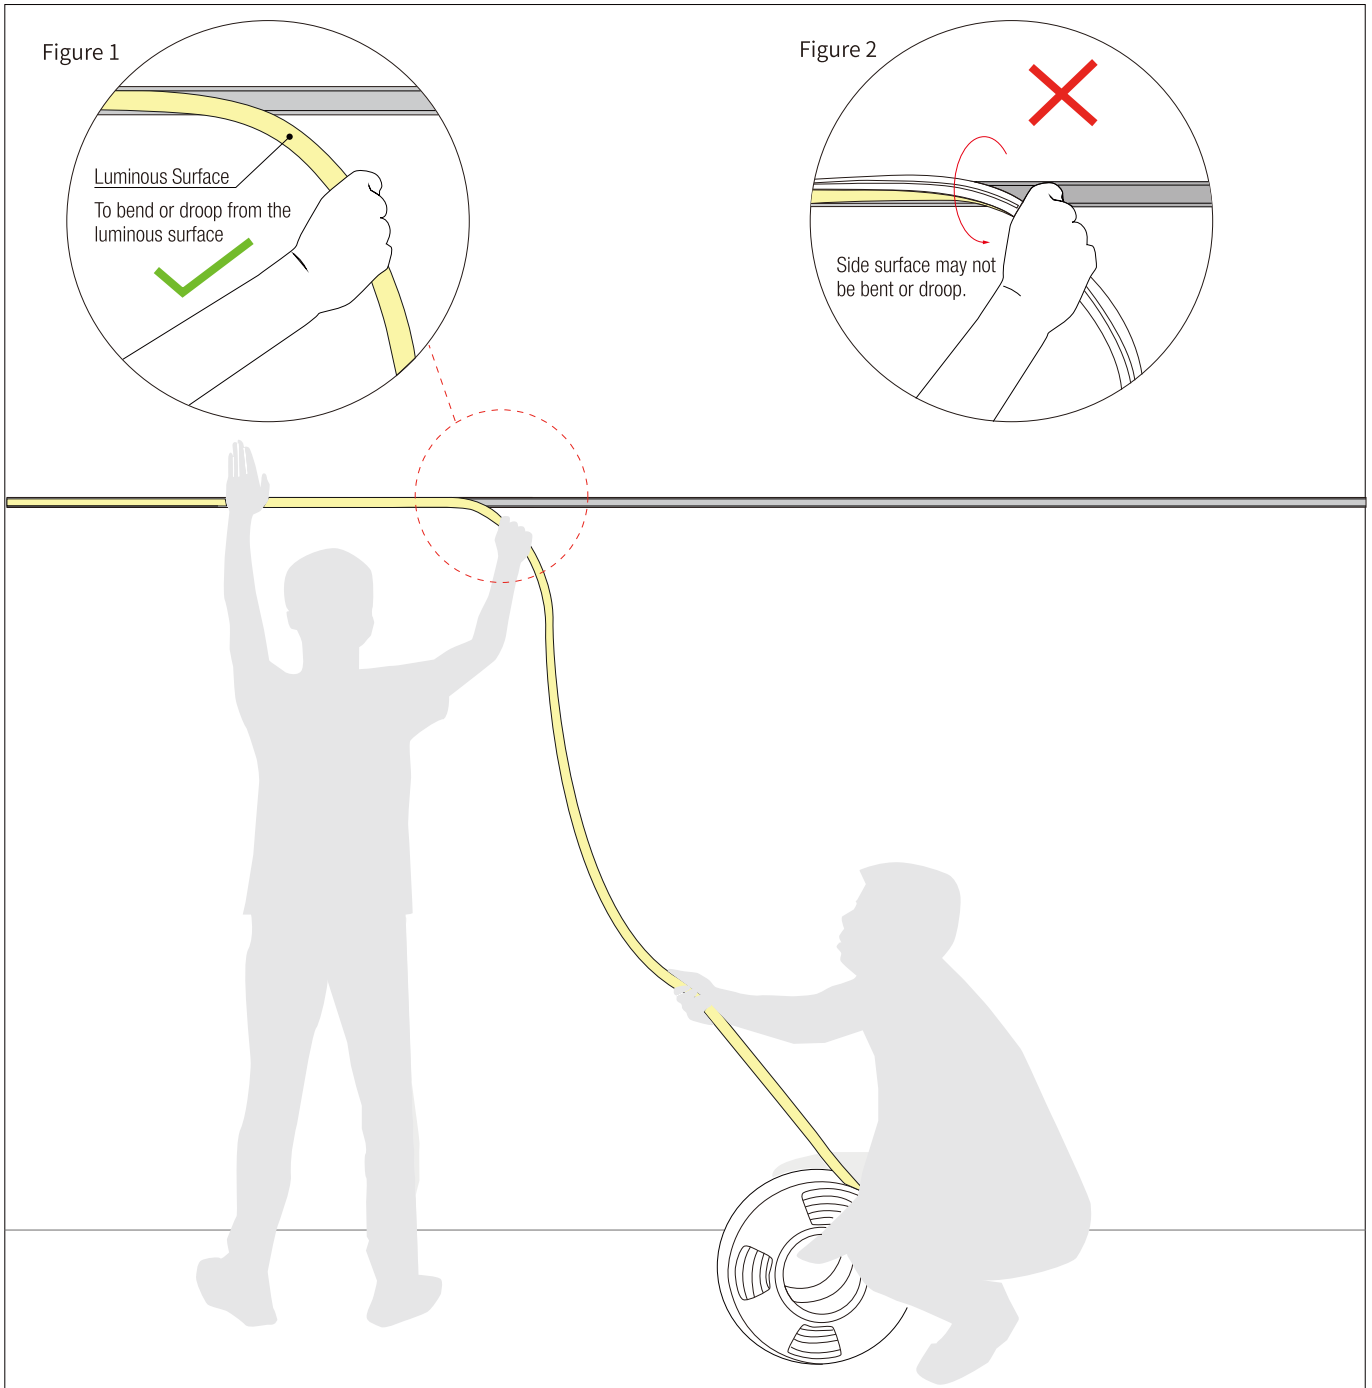

Figure 1
- Press the light with the palm of the left hand to slowly load it into the slot. Straighten the light with right hand so that it droop it in the direction of your hand. See Figure 1.
- Press the light with the palm of the left hand to slowly load it into the slot. Straighten the light with right hand so that it droop in the direction of your hand. See Figure 1.
- Press the light with the palm of the left hand to slowly load it into the slot. Straighten the light with right hand, hold it and rotate it 90° to droop it in the direction of your hand. See Figure 1.